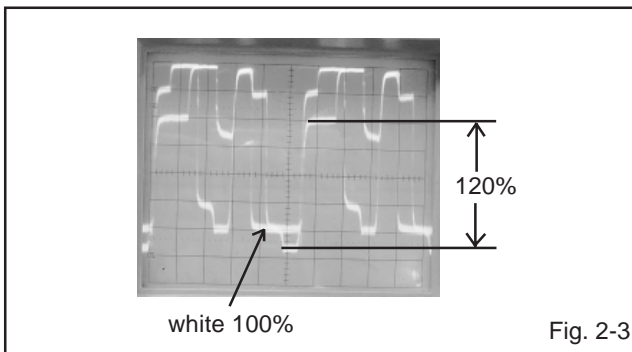

Fig. 2-3
6. Press the VOL. UP/DOWN button on the remote control until the red color level is adjusted to  $120 \pm 5\%$  of the white level. **(Refer to Fig. 2-3)**